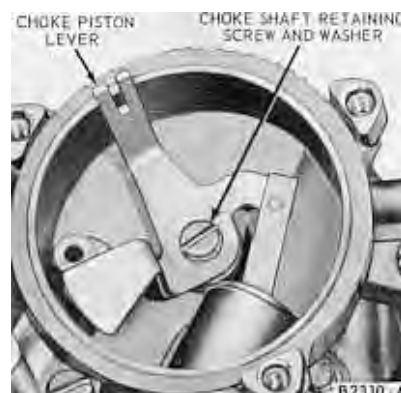

FIG. 11—Choke Shaft and Lever
4. Remove the choke lever retaining screw and washer (Fig. 11). Remove the choke piston lever from the housing. If necessary, remove the pin securing the choke piston to the choke lever link. Remove the choke lever and fast idle cam lever from the choke housing.